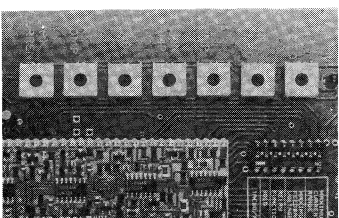

Fig. 5C
- Increase setpoint and drive will ramp up to full speed; adjust MAX SPEED if required; reduce setpoint, the drive will ramp down to zero speed, adjust MIN SPEED if required. Run motor up and down and adjust RAMPS to the required rate. For MIN, MAX SPEED and RAMP adjustment see Fig. 5C.